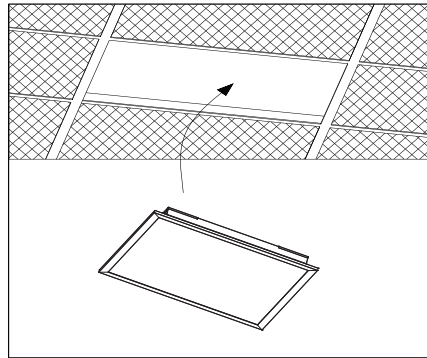

Figure 2
4. Fixture needs to pass through the grid at a 45- degree angle and the fixture need to lay on the grid (Fig. 2)
2. Place the installed drywall flange kit into the corresponding hole and secure it to the hole with the ST4.2*30 Countersunk head self tapping screws. (Fig 2)